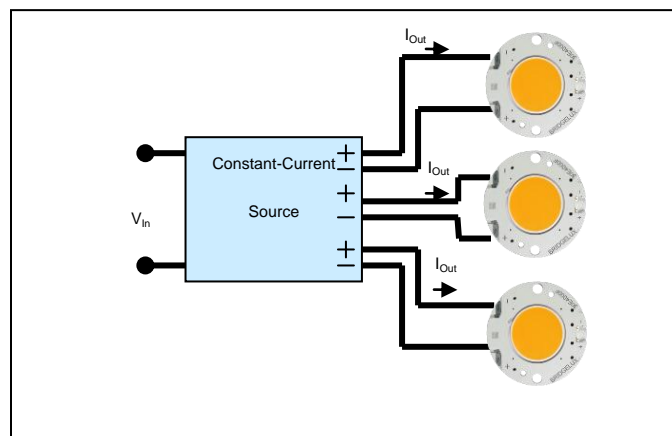

Figure 9: Multiple LED Arrays driven by a driver with multiple constant current channels
2. LED drivers are also available which have multiple output channels. If a driver with multiple constant current output channels is selected, the number of channels needs to be sufficient to drive all of the LED Arrays (Figure 9).